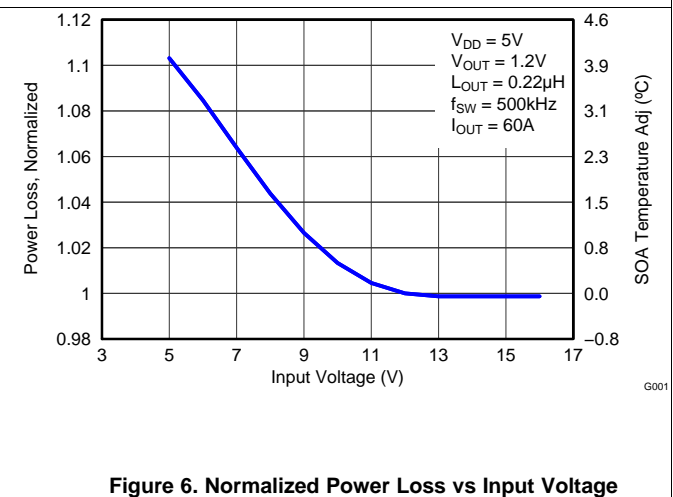

Figure 6. Normalized Power Loss vs Input Voltage
- Normalized Power Loss for input voltage  $\approx$  1.06 (Figure 6)
- SOA adjustment for input voltage  $\approx$  2.4°C (Figure 6)